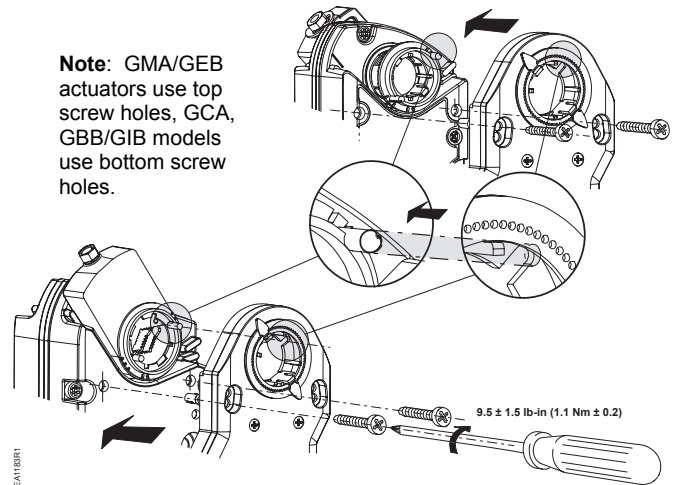

Figure 10. Bringing the EAS and the Actuator together.
1. Nest the alignment peg of the EAS position adapter ring into the notch (See Figure 10).
2. Secure the EAS in place with the M5×25 screws provided. (See Figure 10).